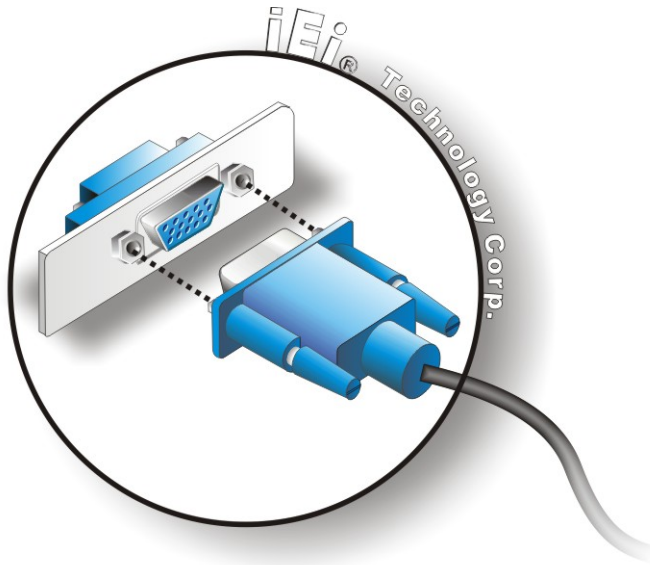

Figure 4-19: VGA Connector
Step 3: Insert the VGA connector Once the connectors are properly aligned with the insert the male connector from the VGA screen into the female connector on the KINO-PV-D5252/D4252. See Figure 4-19.